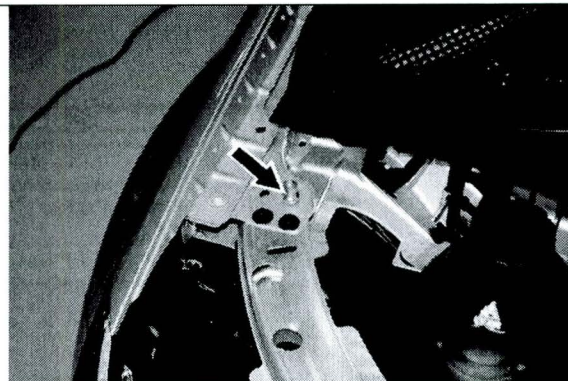

Figure 10
- Route ground wire to ground terminal (arrow, Figure 10) located on passenger side of the vehicle.